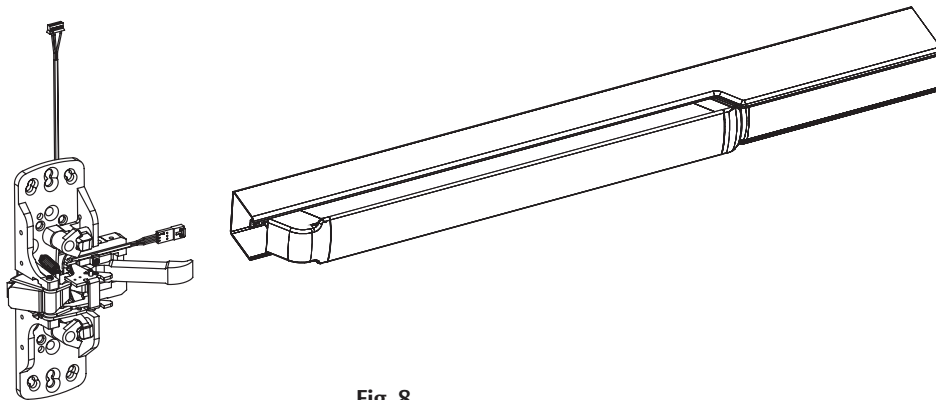

Fig. 8
5. Mount exit trim. (Fig. 8)
4. Install rail assembly. (Fig. 8)